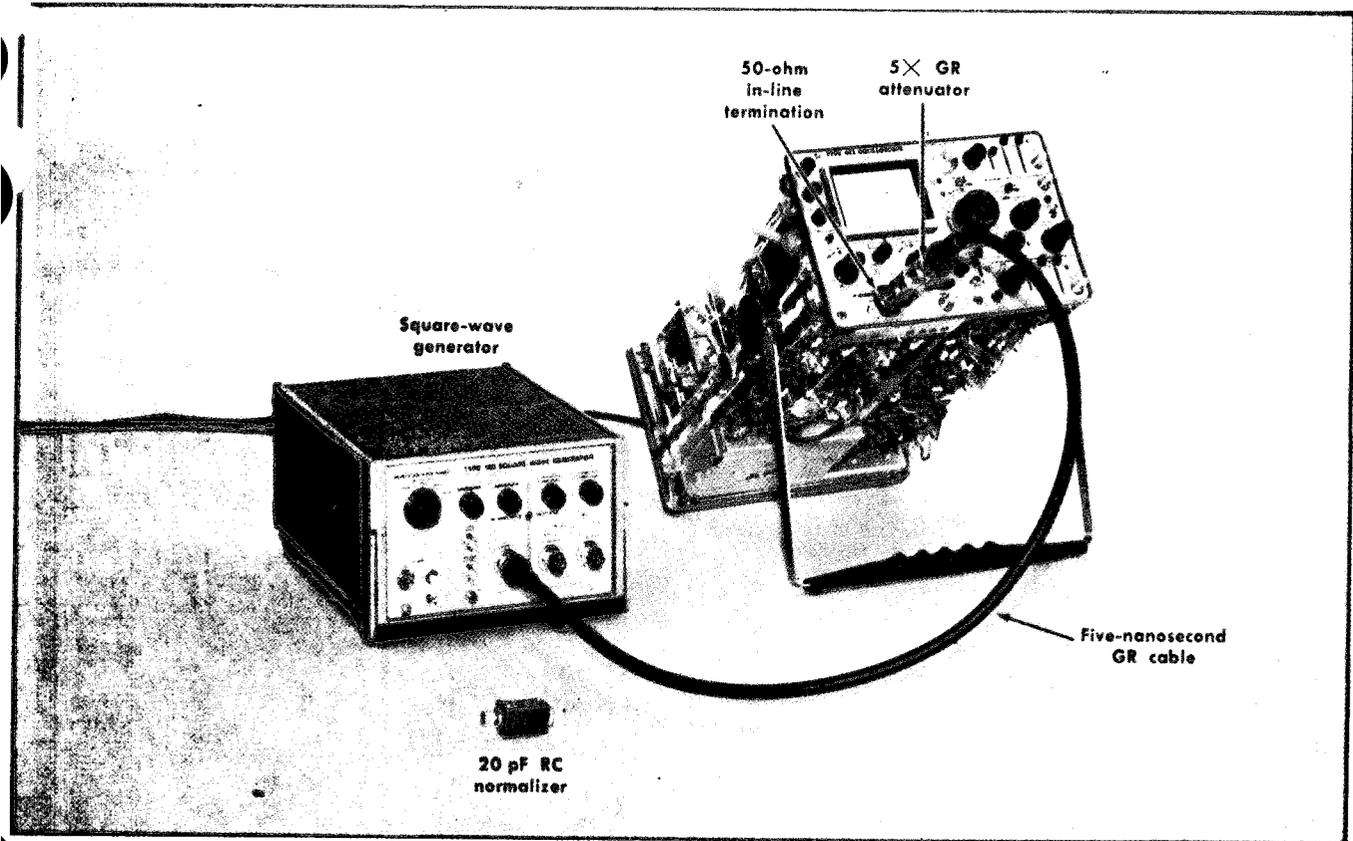

Fig. 6-20. Initial test equipment setup for steps 22 through 24.
a. Test equipment setup is shown in Fig. 6-20.